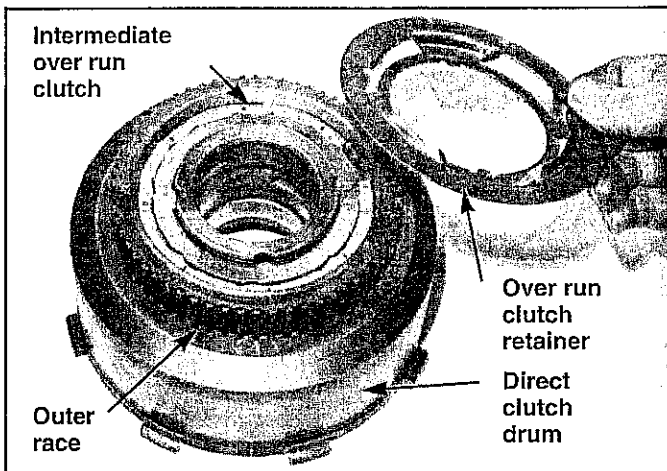

FIGURE 28
STEP 3. Turn the drum over and remove the intermediate overrun clutch snap ring and retainer. (See Fig 28) Remove the clutch outer race and overrun clutch by pulling straight off. The rollers may be removed from the cage for cleaning so they don't get lost. Do not mix these rollers with the rollers from the low and reverse overrun clutch. The direct clutch assembly is now ready to clean.